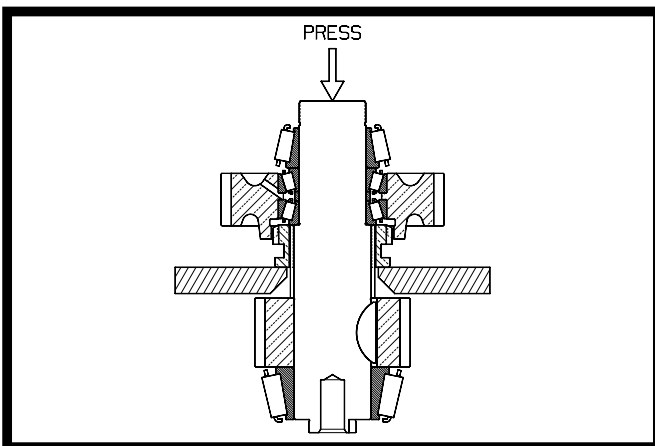

Figure 4.16
3. Place the shaft assembly in a press so that the clutch collar is supported and the press arbor bears against the shaft. **Do not support the assembly by either one of the gears.** See Figure 4.16. Remove the (3) bearing cone assemblies, the gear assembly, the spacer ring, and the clutch collar.